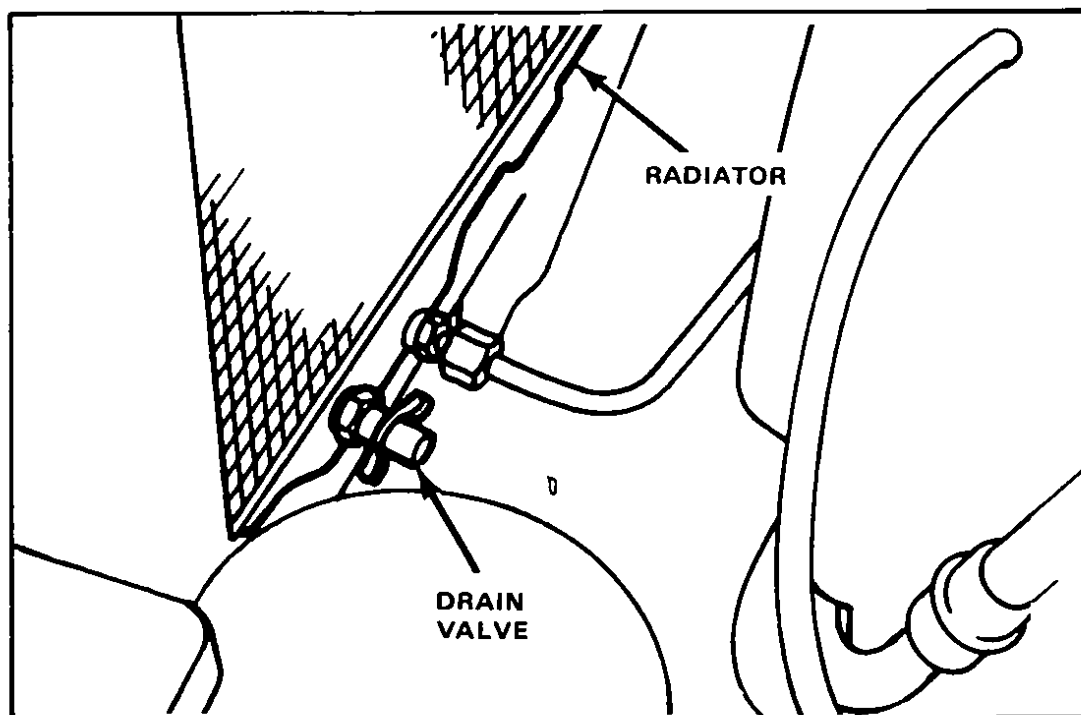

Fig. 6 Radiator petcock location
1. Open the radiator petcock at the bottom of the radiator, Fig. 6, and allow the coolant to drain into a pan. Remove the radiator cap to speed this process.
- 1 Allow the engine to cool, if hot Open the radiator petcock and drain the coolant into a clean pan The petcock is located at the bottom of the radiator, Fig 6